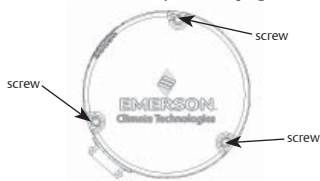

Figure 13b
- Remove three screws securing the motor and control unit together. Grasp the control unit and pull away from motor until both units are separated [Figure 13b].
- Disconnect the three-wire motor-to-control harness from the control [Figure 14b] and remove control unit [Figure 13b]. Inspect for bent, damaged, or recessed wires and terminals inside of connector.